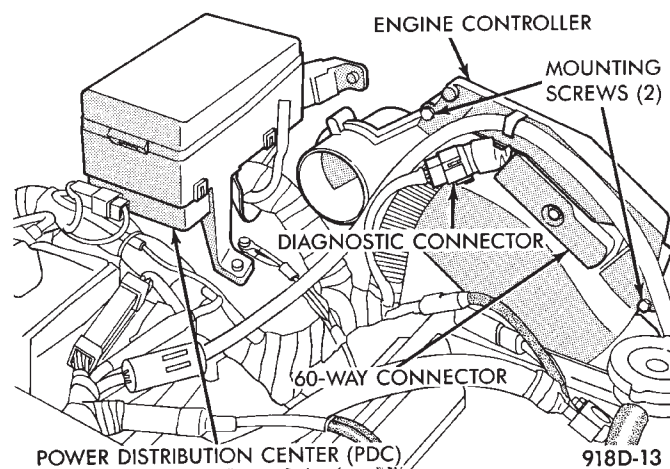

Fig. 22 Engine Controller Removal
(1) Remove air cleaner duct from engine controller.
(2) Remove battery.
(3) Remove engine controller mounting screws (Fig. 22).